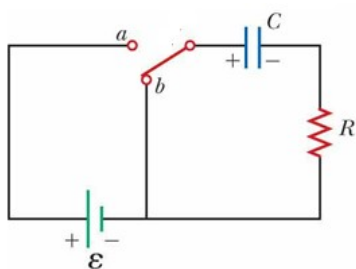
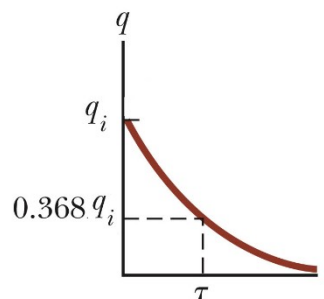

Figure 4
Figure 5
To discharge the capacitor through the resistor, we move the switch to position 'b', as in Figure 4. The capacitor discharges according to equation (3). The charge decreases exponentially as shown in Figure 5.
6. Connect a wire between the points marked as **C5** and **C8** in the circuit, allowing the charge to drain back through the resistor. This can be done by connecting the wire sticking out of **SW2** into **C5**. Observe how the voltage across the capacitor changes with time. The voltage should fall off as shown by ‘q’ in Fig 5.